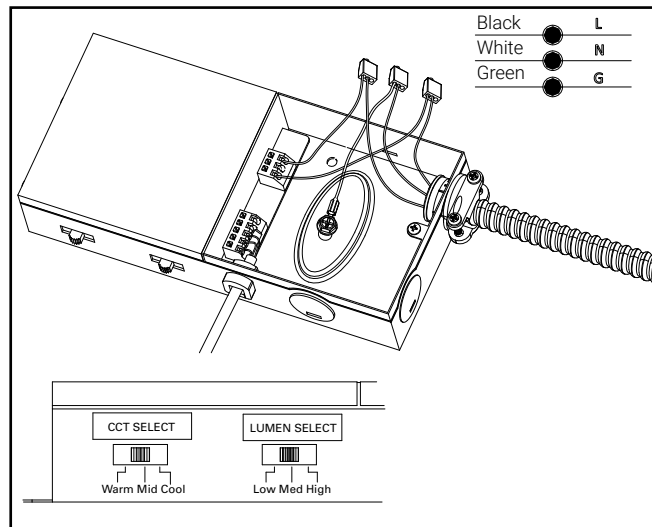

Figure 9.
- Unscrew the power supply screw and connect the mains power to the power supply in order of green to ground, white to neutral, and black to hot. Desired lumens and color temperature can be selected by adjusting the switches on the driver box. See Figure 9.